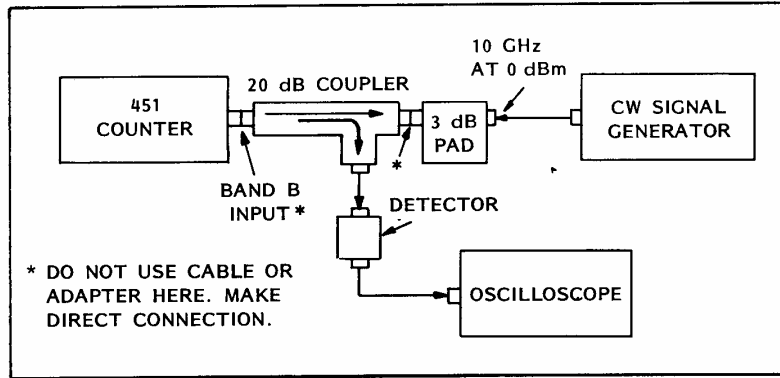

Figure 6-3. Return Loss Measurement Set-Up
2. Carefully set-up equipment as shown in Figure 6-3. Note especially where cables or adapters must not be used (which would degrade accuracy of the adjustment).